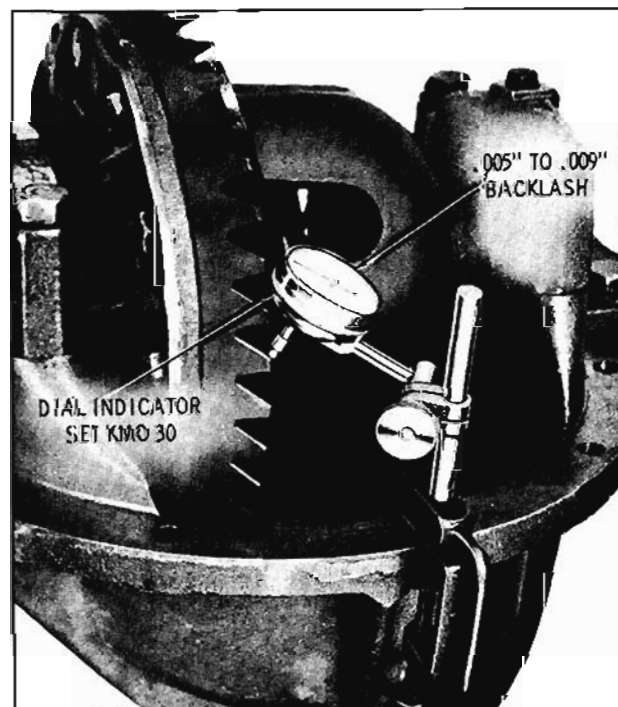

Fig. 10-14 Measuring Backlash
2. If original pinion gear and ring gear are to be reinstalled, install dial indicator set KMO-30 as shown in Fig. 10-14. Measure backlash at two points (180° apart). The lowest reading should be within .005" to .009".